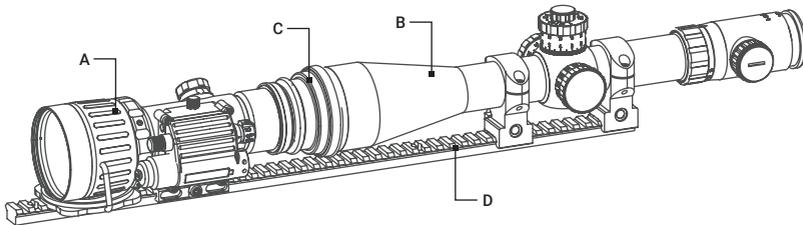

FIGURE 2-3. COMANCHE 40 ON A PICATINNY RAIL IN FRONT OF A DAY SCOPE
Figure 2-3 shows the Comanche 40 (A) and a day scope (B) installed with the light suppressor (C) on a Picatinny/Weaver rail (D).